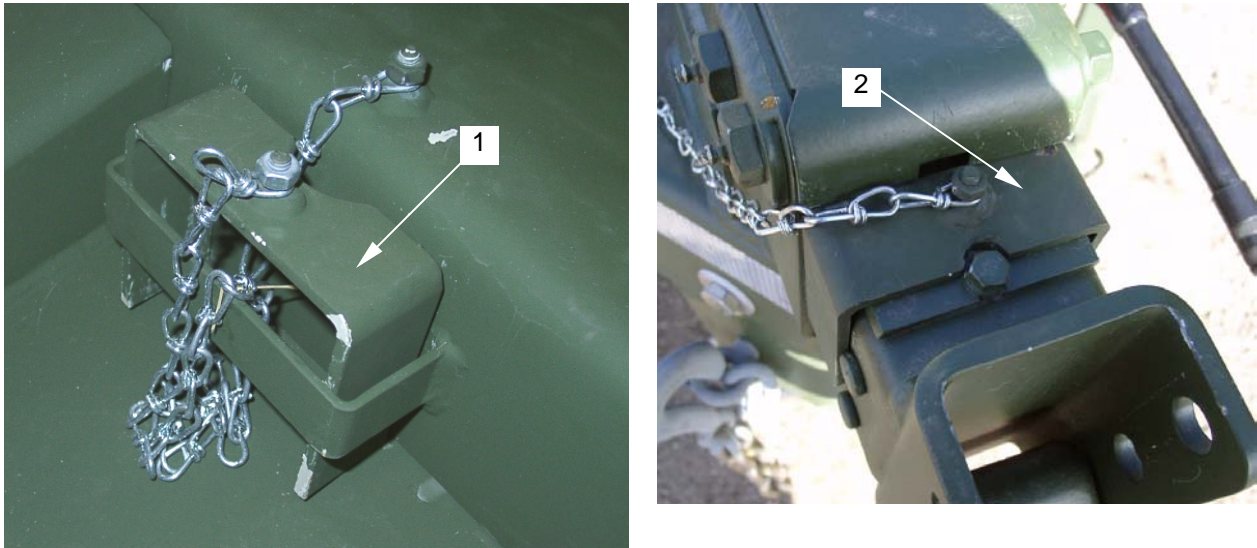

Figure 7. Brake Lockout
8. If trailer is to be backed up, remove brake lockout (**figure 7, item 1**) from its mounting bracket and install on the brake (**figure 7, item 2**). Remove lockout to resume forward motion.